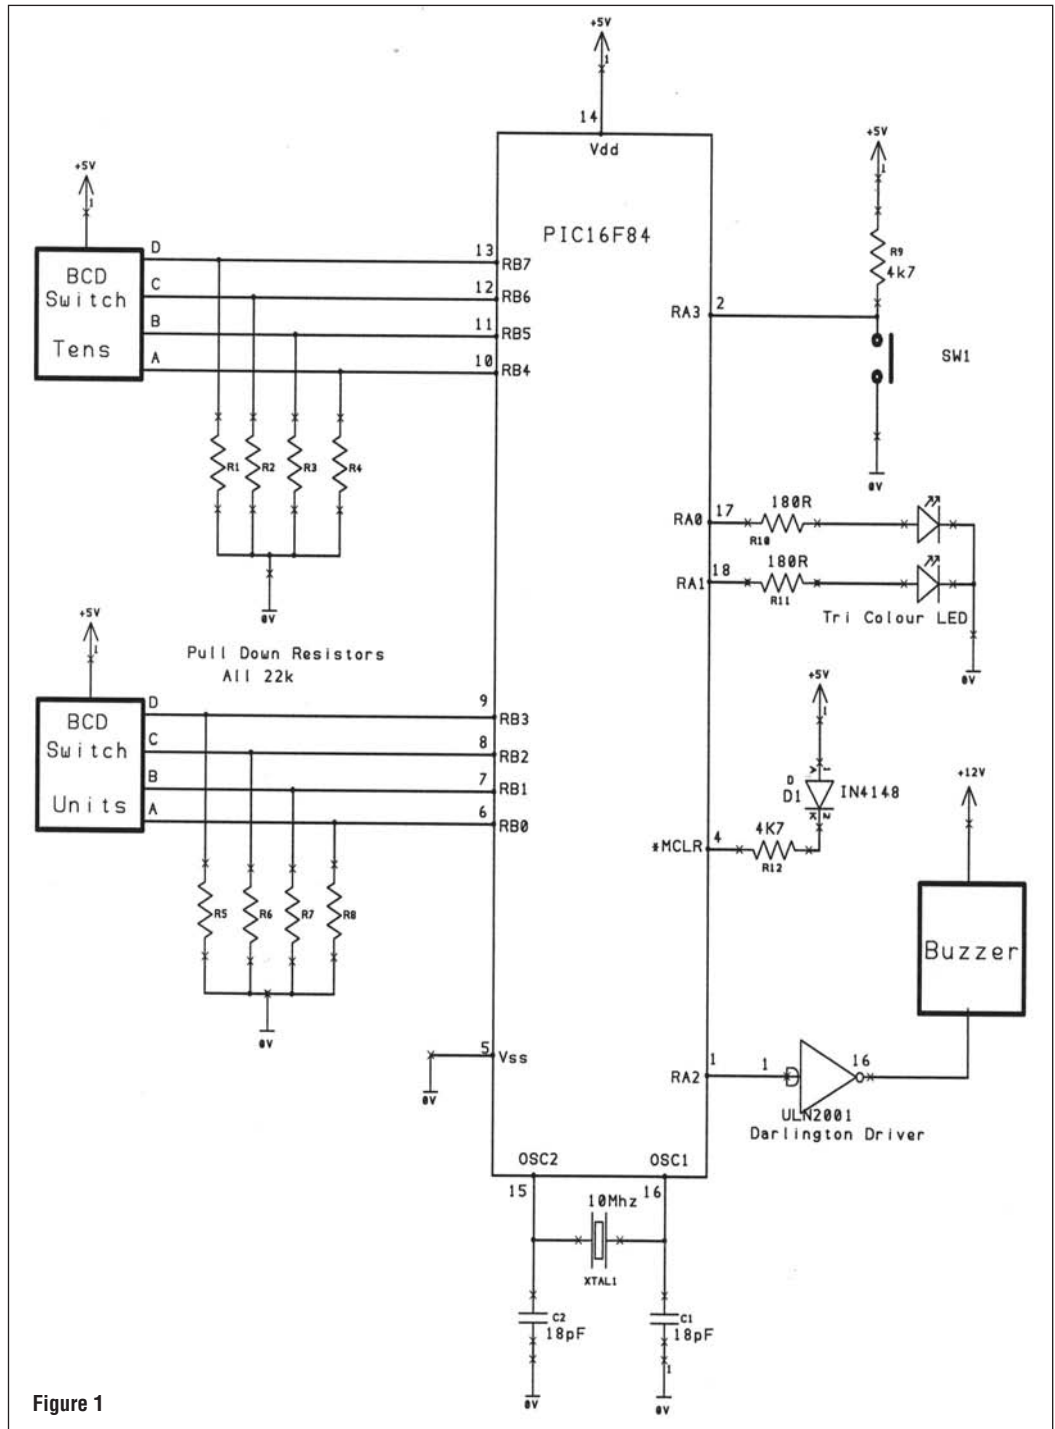

Figure 1
As can be seen from **Figure 1**, user input to the PIC 16F84 is achieved using a pair of Binary Coded Decimal (BCD) switches. A Darlington driver IC was used to drive the buzzer and a tricolour LED used to indicate the 'Stopped' and 'Running' states. The master clear (*MCLR) signal is pulled 'high' through diode D1 and resistor R12, to ensure proper power on reset. (1) Testing was initiated by depressing push-button switch SW1.